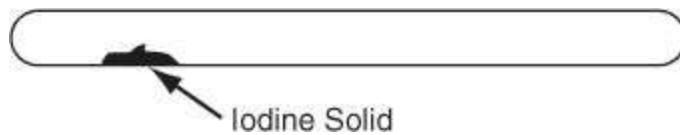

Figure P3.1.13
*3.1.13. A 1.0 g sample of solid iodine is placed in a tube, and the tube is sealed after all of the air is removed (Figure P3.1.13). The tube and the solid iodine together weigh 27.0 g.